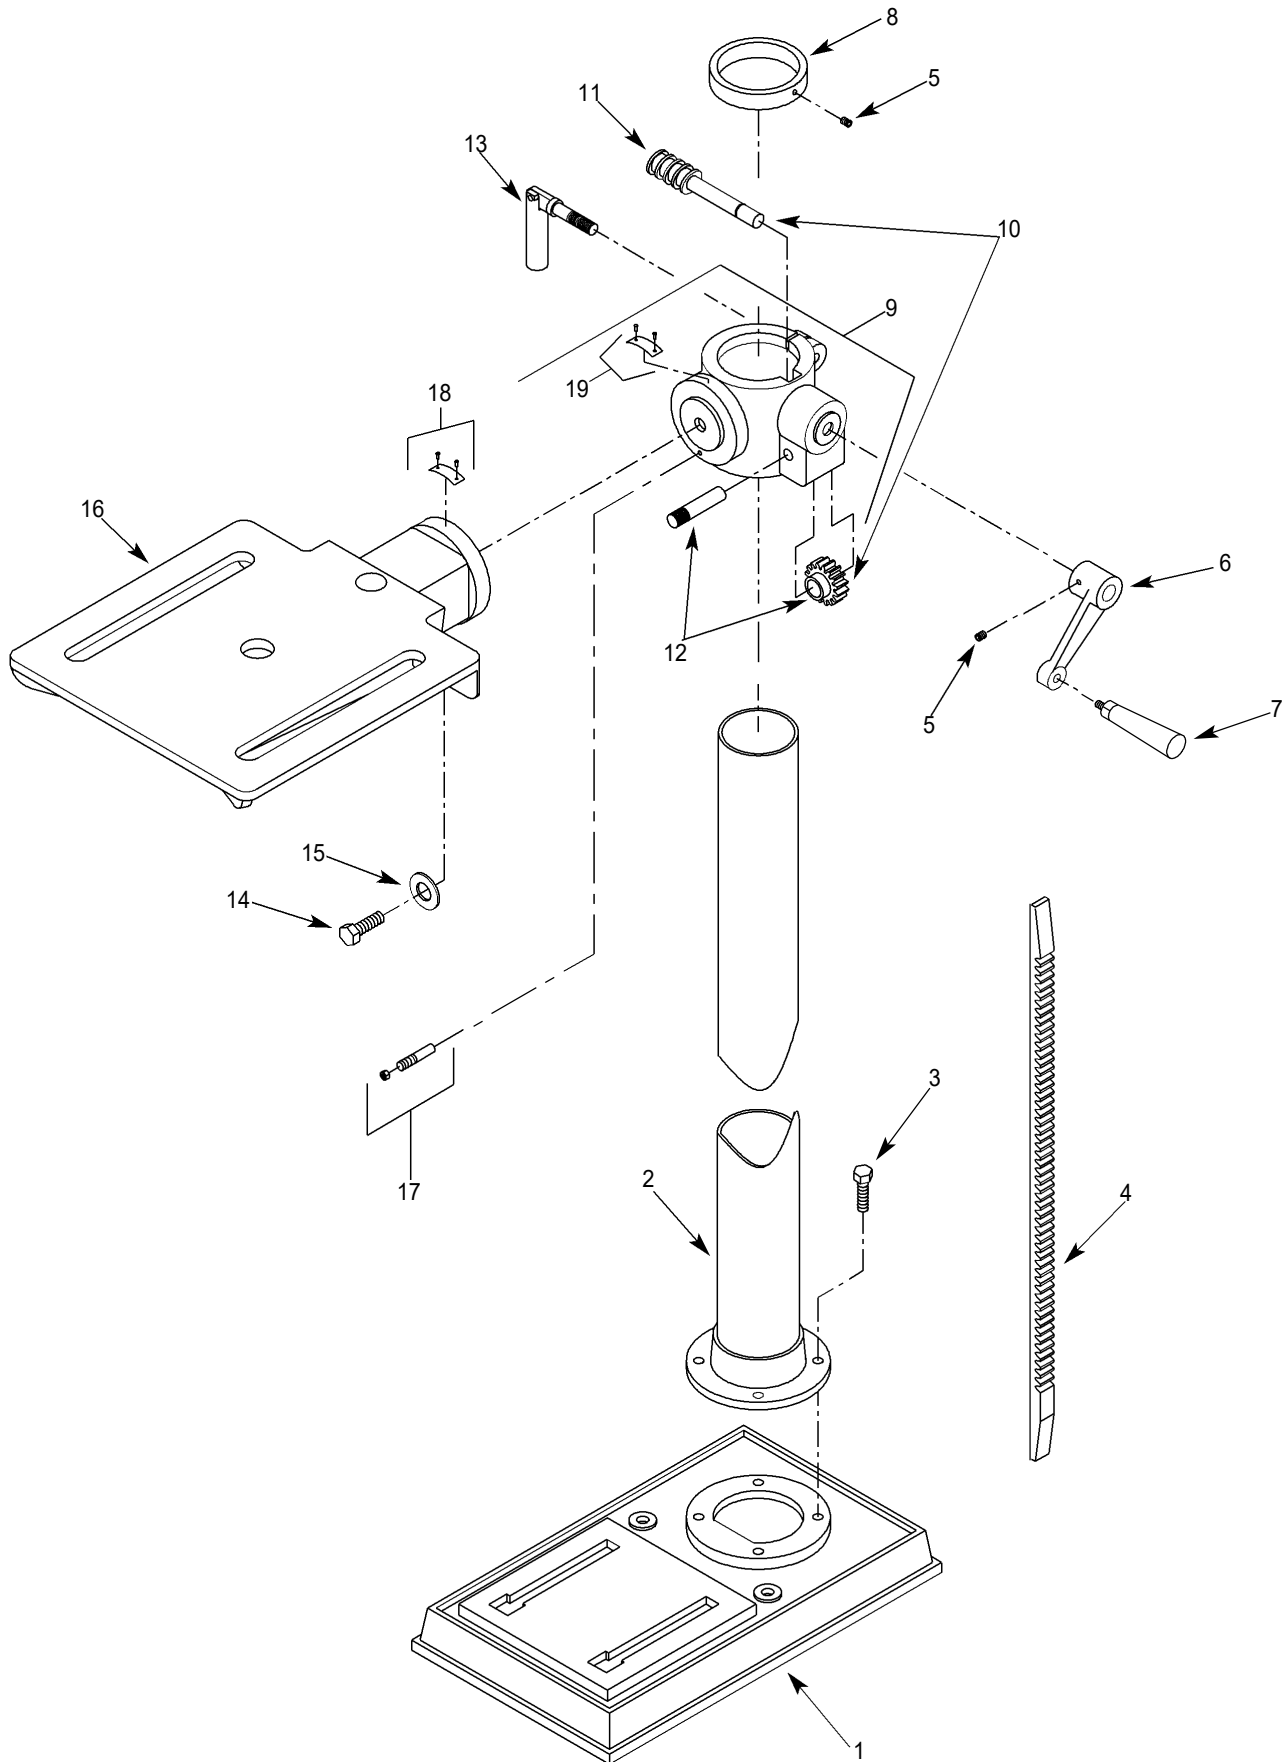

Figure 26 - Replacement Parts Illustration for Base (ModelDP16R/ZQJ3116)
- Apply lubricant to rack and pinion gear (Figures 26 and 27, Ref. Nos. 4 and 12) on column and table assembly.